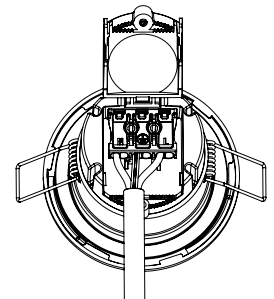

Fig. 3
- After wiring the cable press the plastic fix cap to grip the cable solidly. (see fig. 3)